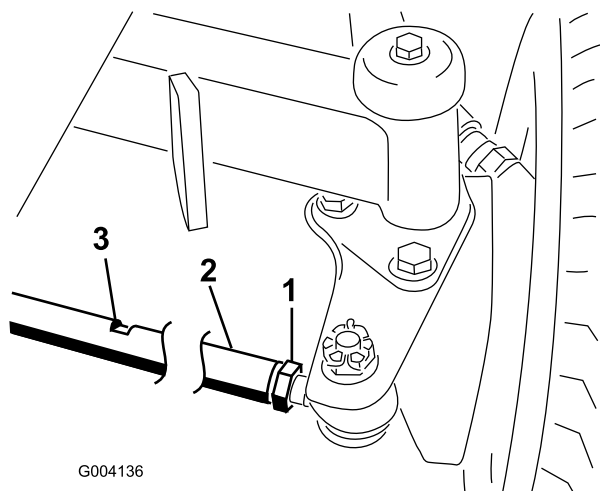

Figure 68
2. Loosen the jam nut on each end of the tie rod (Figure 68).